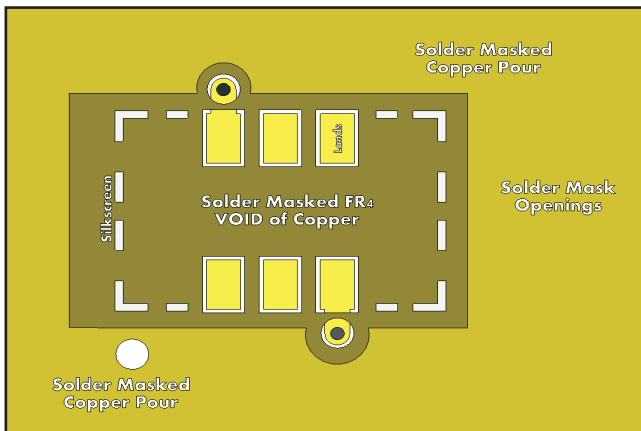
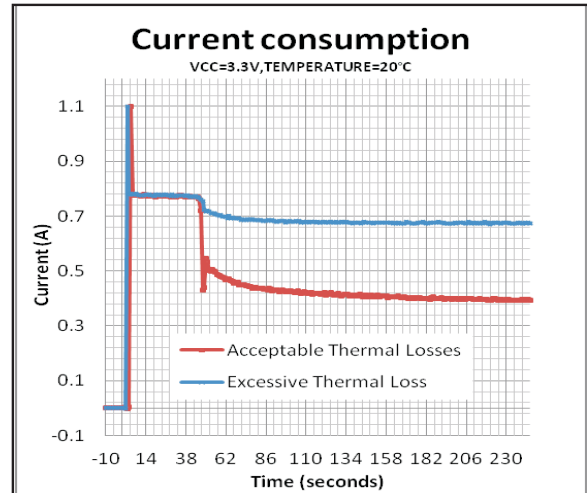

Figure: 16-02
Figure: 16-03
- To reduce unwanted thermal gains/losses, open a window in any top level copper pours under the device. Excessive thermal losses may result in higher than normal current consumption or complete device failure. See Figure 16-03. Excessive thermal gains will overheat the oven core causing frequency instability. FIGURE 16-02 illustrates a how to properly flood a top layer while creating a “window” under the OXCO.